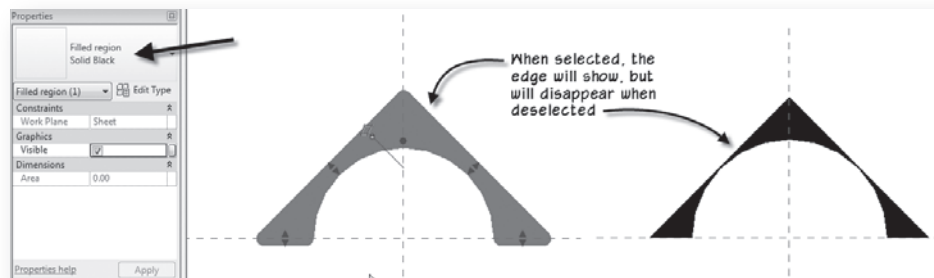

FIGURE 10.32 The completed filled region shape for the elevation tag
- Verify that Filled Region: Solid Black is chosen on the Type Selector and then deselect the element (see Figure 10.32).